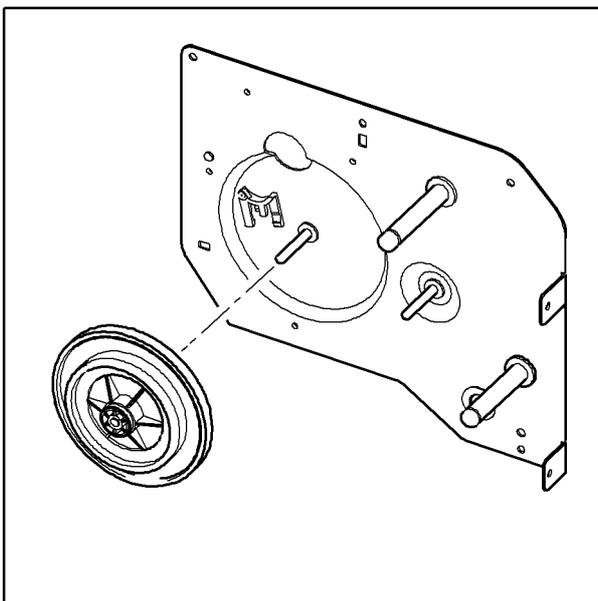

Figure 7
11. Remove the RDCN gear 139/83 gear, Figure 7.